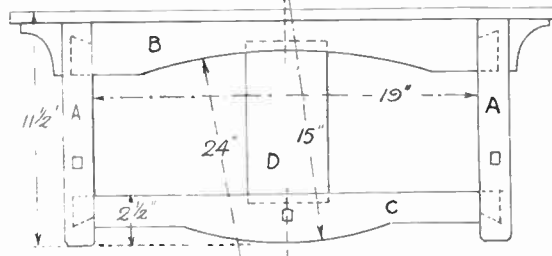

Fig. 1—General outline of main parts with dimensions
The front view of the frame, Fig. 1, gives the positions of the rails and how they are to be fixed together. The side rails (A) are 11ins. long by $1\frac{1}{2}$ ins. wide by $\frac{1}{2}$ in. thick. Top rail (B) is 21ins. long by $2\frac{1}{2}$ ins. wide at the ends, and $1\frac{1}{2}$ ins. deep in the middle, by $\frac{1}{2}$ in. thick. The bottom rail is 21ins. long by $1\frac{1}{2}$ ins. wide at the ends and $2\frac{1}{2}$ ins. wide in the middle, by $\frac{1}{2}$ in. thick. The middle panel is 8ins. long by $4\frac{1}{2}$ ins. wide by $\frac{3}{8}$ in. thick.